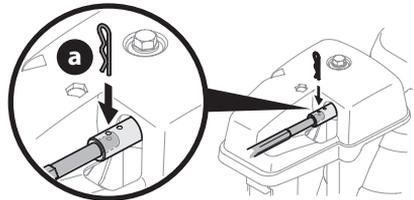

Figure 52
2. Pull out chute control rod until hole in it lines up with second hole in chute control head (Figure 52).